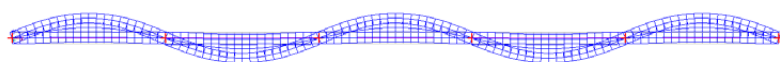

Figure 3: Buckled shape: 5-segment beam, uniform moment
- 26 Where the bending moment is uniform over the whole beam, the half-waves of the buckled shape can be seen to have the same amplitude as shown in Figure 3.